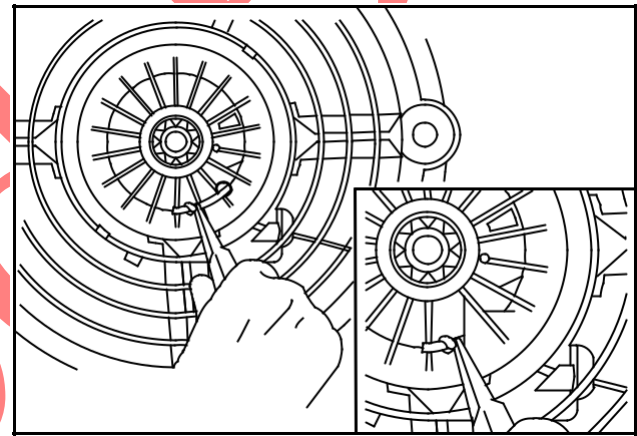

Fig. 9 – Tie Knot
2. Insert rope through handle and tie a figure eight knot, Fig. 8, Fig. 9.